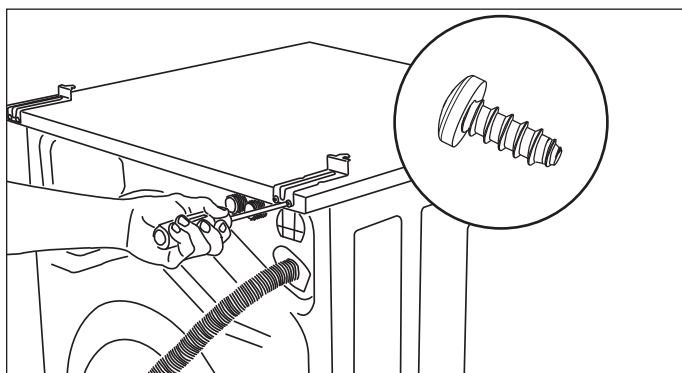

Figure 2-54.
3. Attach each rear bracket to washer top with two (2) #10 screws. (See Figure 2-54)